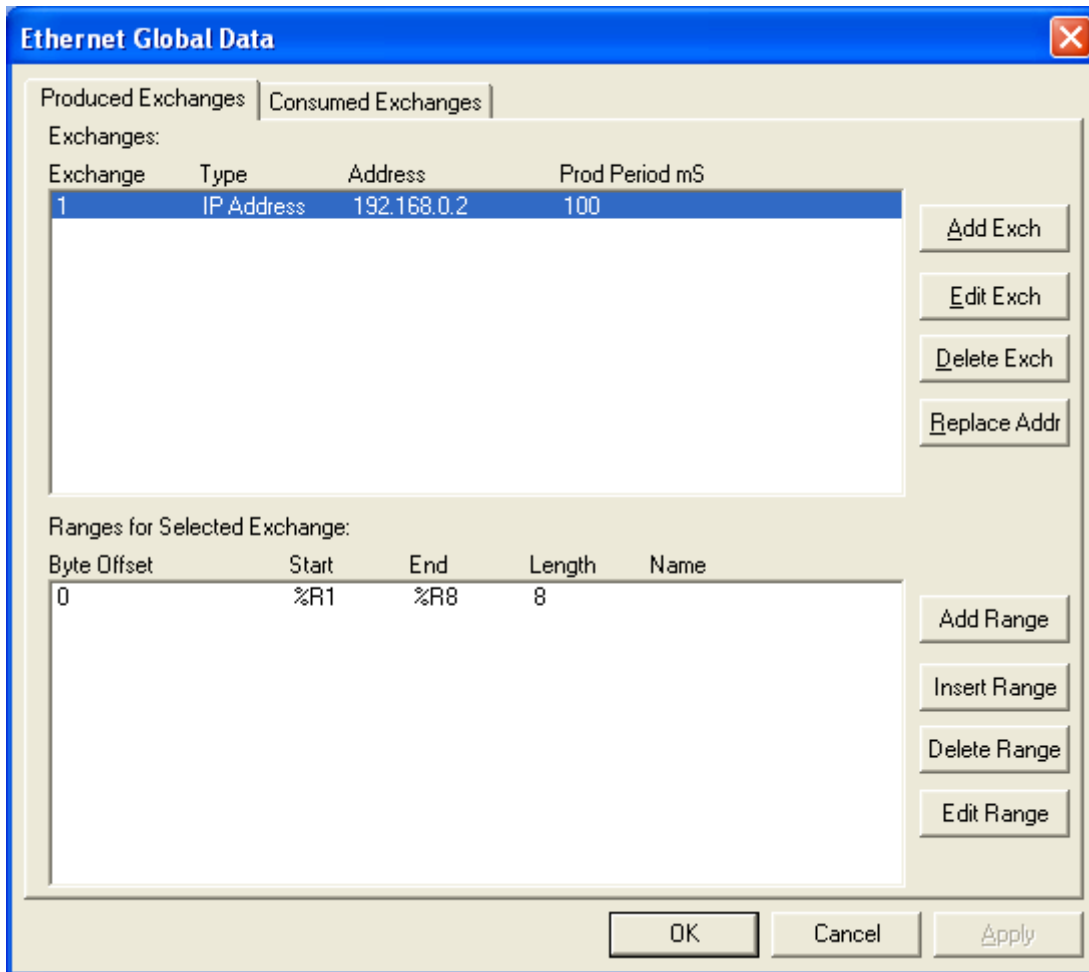

Figure 6.10– Configured Produced Exchange 1 - Node 1
At this point, the Produced Exchanges tab in the EGD Configuration dialog should be as shown in Figure 6.10.
1. On the main Cscape screen, select **Open** from the **File** menu and open the saved Node 1 user program (**EGD Node 1.csp**). Then open the Ethernet Module Configuration dialog (Figure 6.7 [page Figure 6.7– Ethernet Module Configuration - Node 1]) and click on the **Config** button next to the **EGD (Ethernet Global Data)** checkbox to open the EGD Configuration dialog (Figure 6.10 [page 44]).